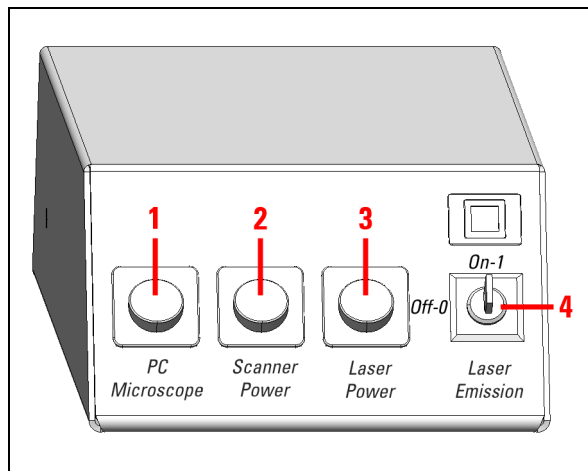

Figure 57: Overview of the main switch board on the flexible supply unit
5. Switch on the workstation and the microscope on the main switch board of the flexible supply unit (see **Figure 57, item 1**). You do not have to start the operating system—it starts automatically when you switch on the workstation. Wait until the startup process has concluded.
9. Switch on the scan head on the flexible supply unit's main switch board (see **Figure 57**, item 2).
10. Switch on the lasers on the main switch board of the flexible supply unit (see **Figure 57**, item 3).
13. To switch on the laser in the supply unit, activate the key switch on the main switch board of the flexible supply unit (see **Figure 57, item 4**).